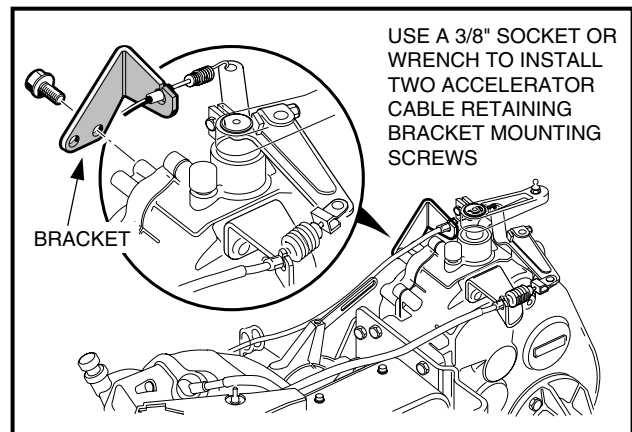

FIGURE 10-87
5. Install the accelerator cable bracket on transaxle casing. Use a 3/8" socket to install the mounting screws (**Figure 10-87**).